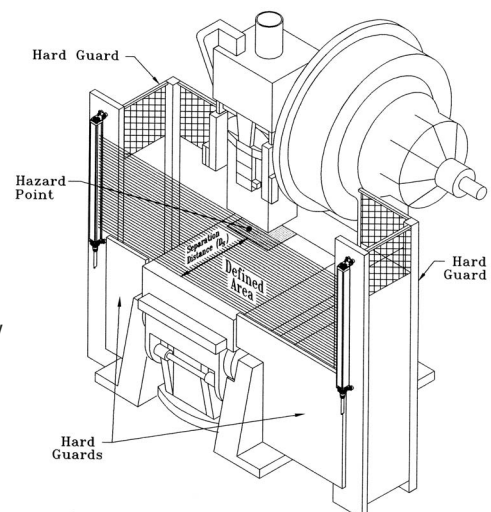

Figure 28. Calculation of D_s
- 2) Verify that the minimum separation distance from the closest danger point of the guarded machine to the defined area is not less than the calculated distance (see figure 28, below).